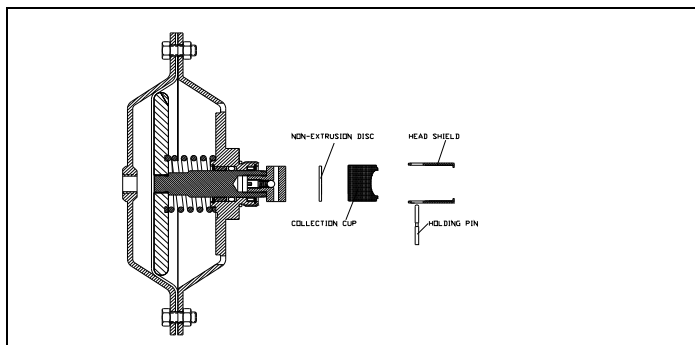

Figure 4
- 3.2.10 Push the collection cup out of the shield. The non-extrusion disc (Part 13) will come out first (also see Figure 4).